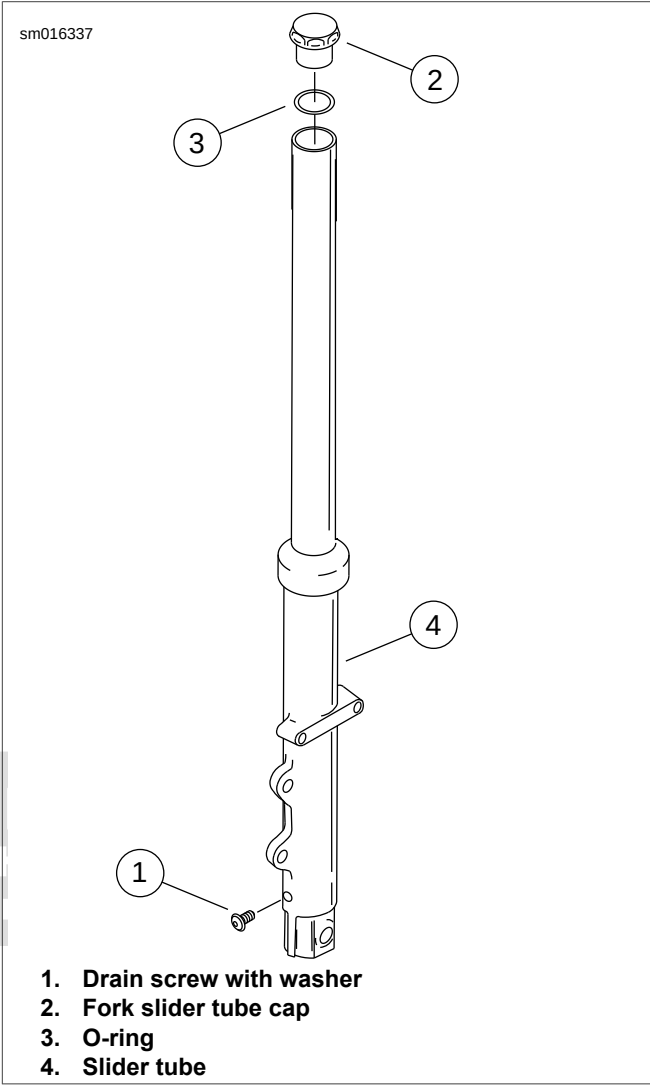

Figure 2-138. Draining Front Fork Oil: XL 883N/R
2. See Figure 2-138. With the motorcycle upright (not resting on jiffy stand) and with the front fork pointed straight ahead, remove the drain screw and washer (1) from the bottom of the slider tube (4).
1. See Figure 2-138. Remove fork slider tube cap (2) with O-ring (3) from each slider tube (4). Replace the O-ring if damaged or worn.